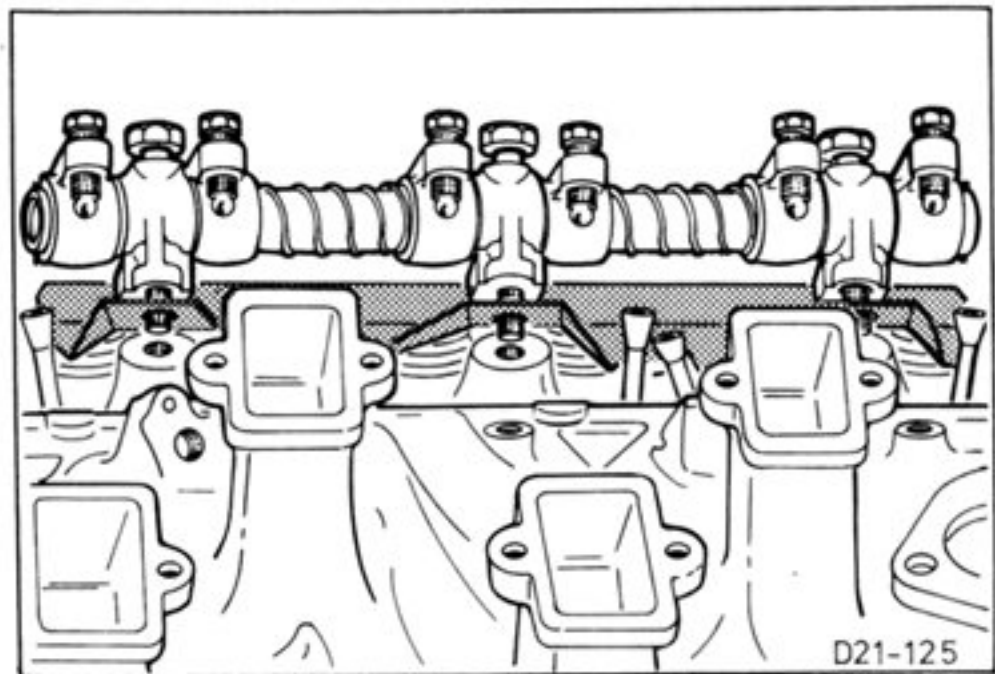

Fig.29. Remove rocker shaft and oil splash shield.
11. Remove rocker covers (14 bolts) and rocker shafts (6 bolts) with oil splash shields, Fig.29. Take out push rods.